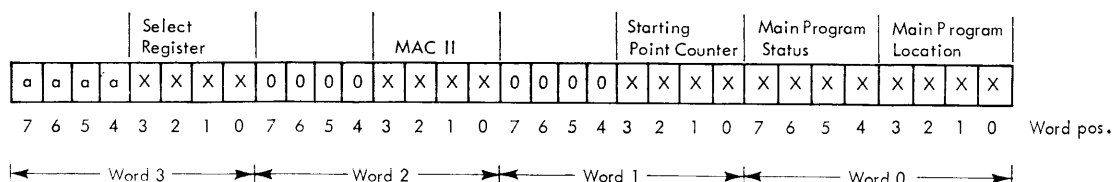

Figure 7. Channel ASU 15
Instructions in an interrupt program which specify the use of auxiliary storage automatically use these units unless special instructions are used to refer to the normal ASU's in storage bank 1. They operate in the same manner as those in storage bank 1. However, CASU 15 is used to store the status of the main program before a transfer is made to the interrupt program. For this purpose, CASU 15 is divided into four 8-character words as follows (Figure 7):
1. The contents of the instruction counter are stored in the first four positions of word 0, channel auxiliary storage unit 15. The status of indicators is stored as bits in the remaining four positions of word 0, CASU 15 (Figure 7).
2. The contents of MAC II, the starting point counter, and the select register are stored in CASU 15 as shown in Figure 7.
2. The contents of CASU 15 are read and the entire machine status of the main program is restored, including status indicators, MAC II, the starting point counter, and the select register. The instruction counter is set to the location of the next instruction in the main program, as previously stored in the first four positions of word 0 in CASU 15 (Figure 7).